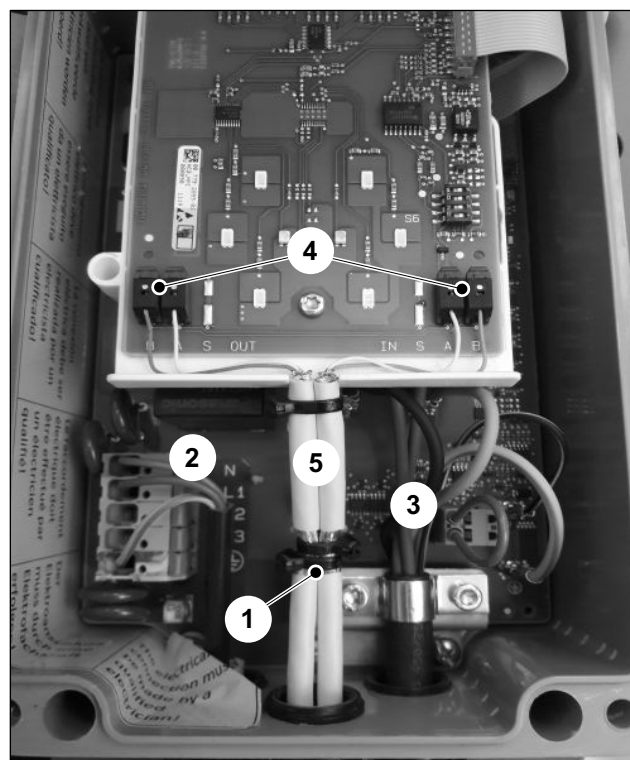

Fig. 10 Line routing for line wiring
All other wallboxes have two bus lines routed to them (Fig. 10).
The individual wires of the power supply (Fig. 10/2) and of the charging cable (Fig. 10/3) should be laid at the greatest possible distance from the bus lines.
3. Fasten the exposed shields to the shield support with one or two cable ties (Fig. 10/1).
4. Strip two individual wires approx. 8 mm and connect these to the appropriate terminals (Fig. 10/4).
The bus lines must be jacketed between the shield support and connection board (Fig. 10/5).